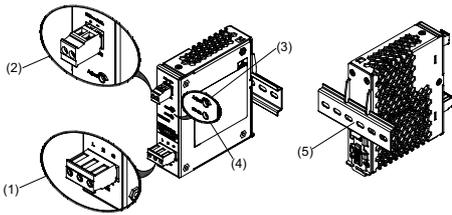
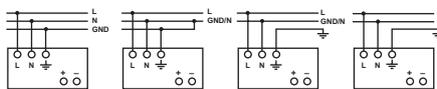

Figure 1
Figure 6
## 2. Device description (Fig. 1)
### 5.1. Input connection (Fig. 1 (1), Fig. 6)
Use L, N and GND connections of input terminal connector (see Fig. 1 (1)) to establish the 100-240 VAC connection.
### 5.2. Output connection (Fig. 1 (2))
Use the "+" and "-" screw connections to establish the 24 VDC connection. The output provides 24 VDC. The output voltage can be adjusted from 24 to 28 VDC on the potentiometer. The green LED DC OK displays correct function of the output (Fig. 1 (4)). The device has a short circuit and overload protection and an overvoltage protection limited to 35 VDC.